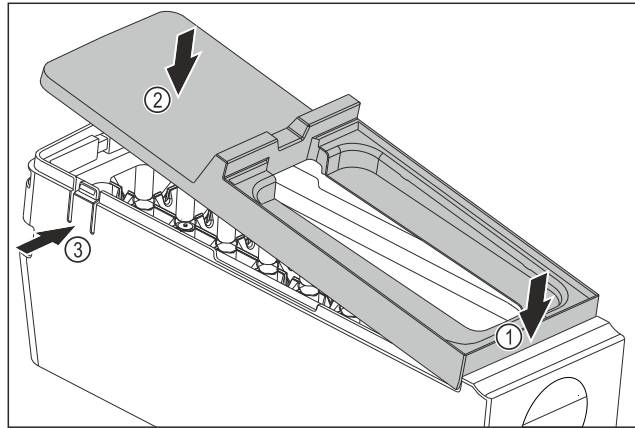

Fig. 113
- ▶ Installing the EasyTwist-Ice body cover: Place the cover on the front. Fig. 113 (1)
- ▶ Lower the cover at the rear. Fig. 113 (2)
- ▶ The cover locks into both tabs Fig. 113 (3) audibly.